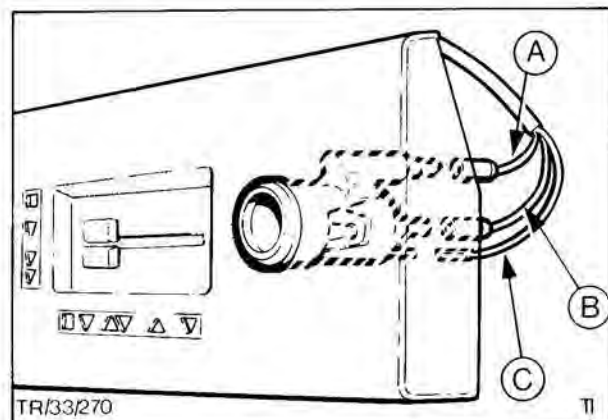

Fig. 75. Cigarette lighter wiring
4. Refit assembly in order shown in Fig. 75.